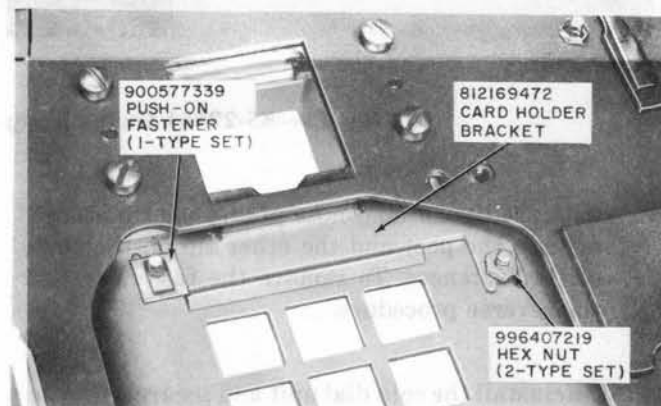

Fig. 49—Card Holder Bracket Installed in Touch-Tone Telephone Set
(5) Secure the window and number card using the card holder bracket and two nuts (or push-on fasteners) as shown in Fig. 49.